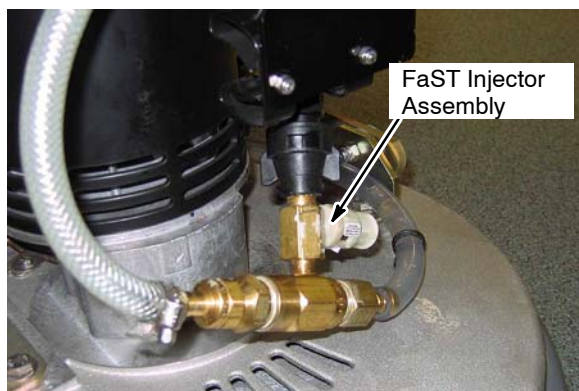

Fig. 6
2. Remove the old FaST Injector Assembly from the machine (Figure 6).